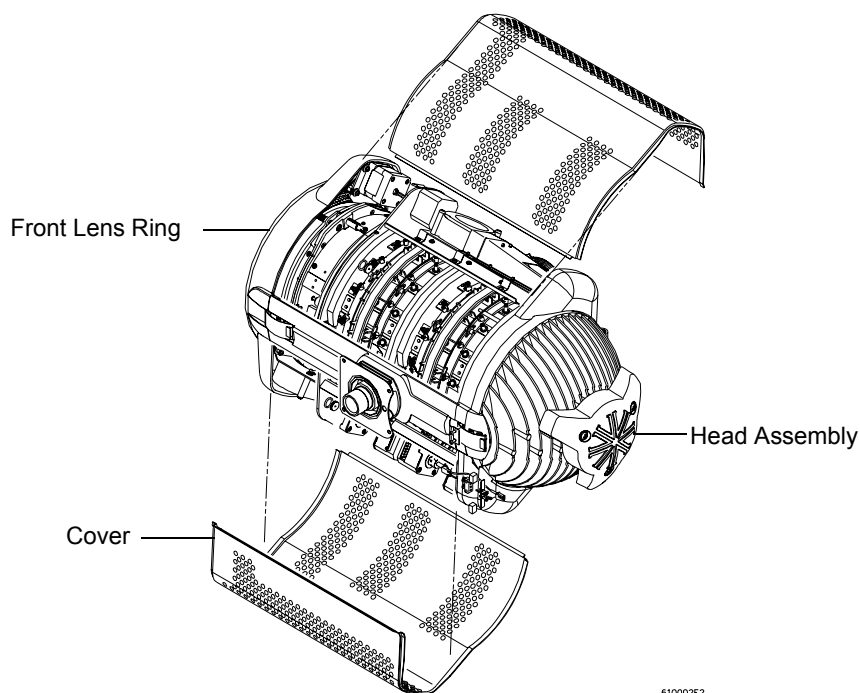

Figure 2-7: Head Covers Removal
Step 2. Remove head covers. **Figure 2-7.**
- Step 2. Remove head covers. **Figure 2-7.**